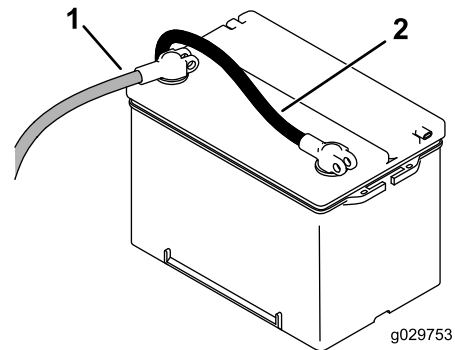

Figure 6
5. Disconnect the negative (black) cable from the battery, then disconnect the positive (red) cable (Figure 6). Retain the cable mounting hardware.
2. Connect the positive (red) cable to the positive (+) terminal and the negative (black) cable to the negative (-) terminal of the battery (Figure 6).